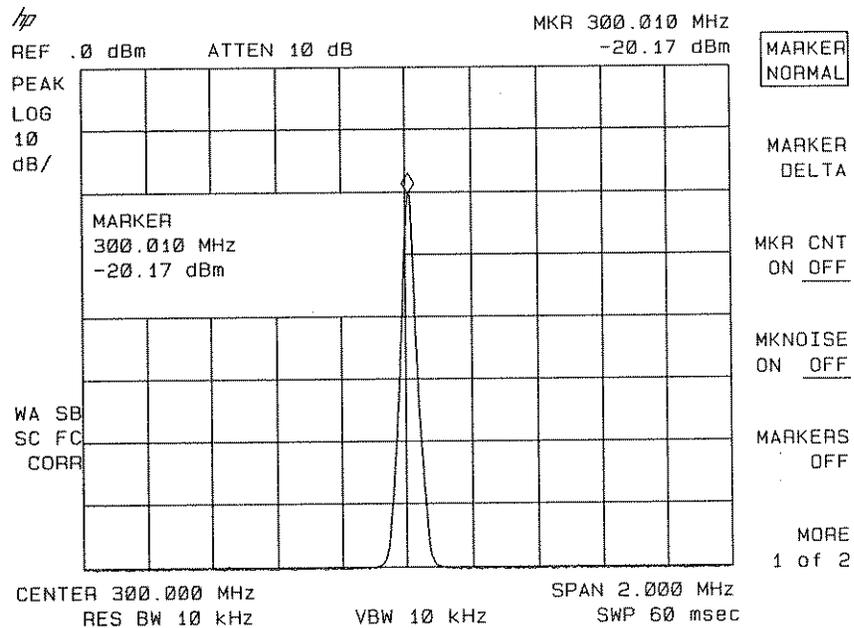

Figure 5-4. Reading the Amplitude and Frequency
5. Determine the amplitude and frequency of the signal. You can either press **PEAK SEARCH** or press **MKR** and move the marker to the signal peak. Read the amplitude and frequency. The display screen should look like the one in Figure 5-4. Frequency is displayed horizontally, and amplitude (power) is displayed vertically.